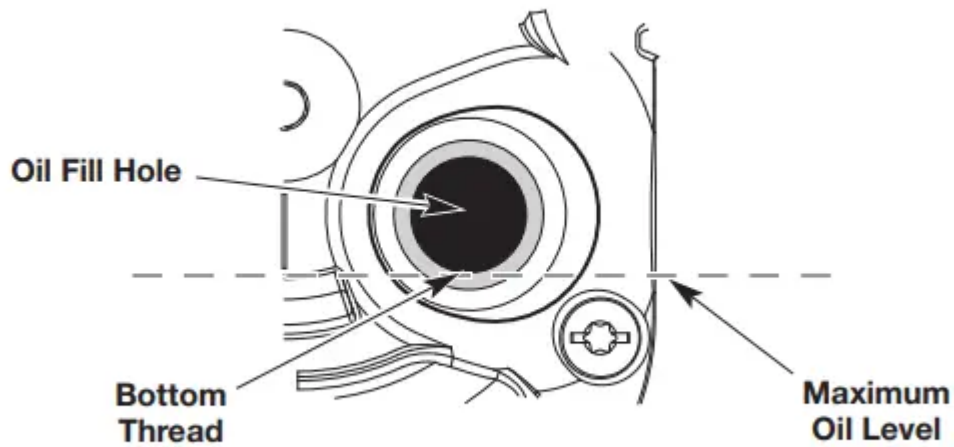

Fig. 15
5. Look into the oil fill hole; use a flashlight if necessary. The oil level should just touch the bottom thread of the oil fill hole (Fig. 15).